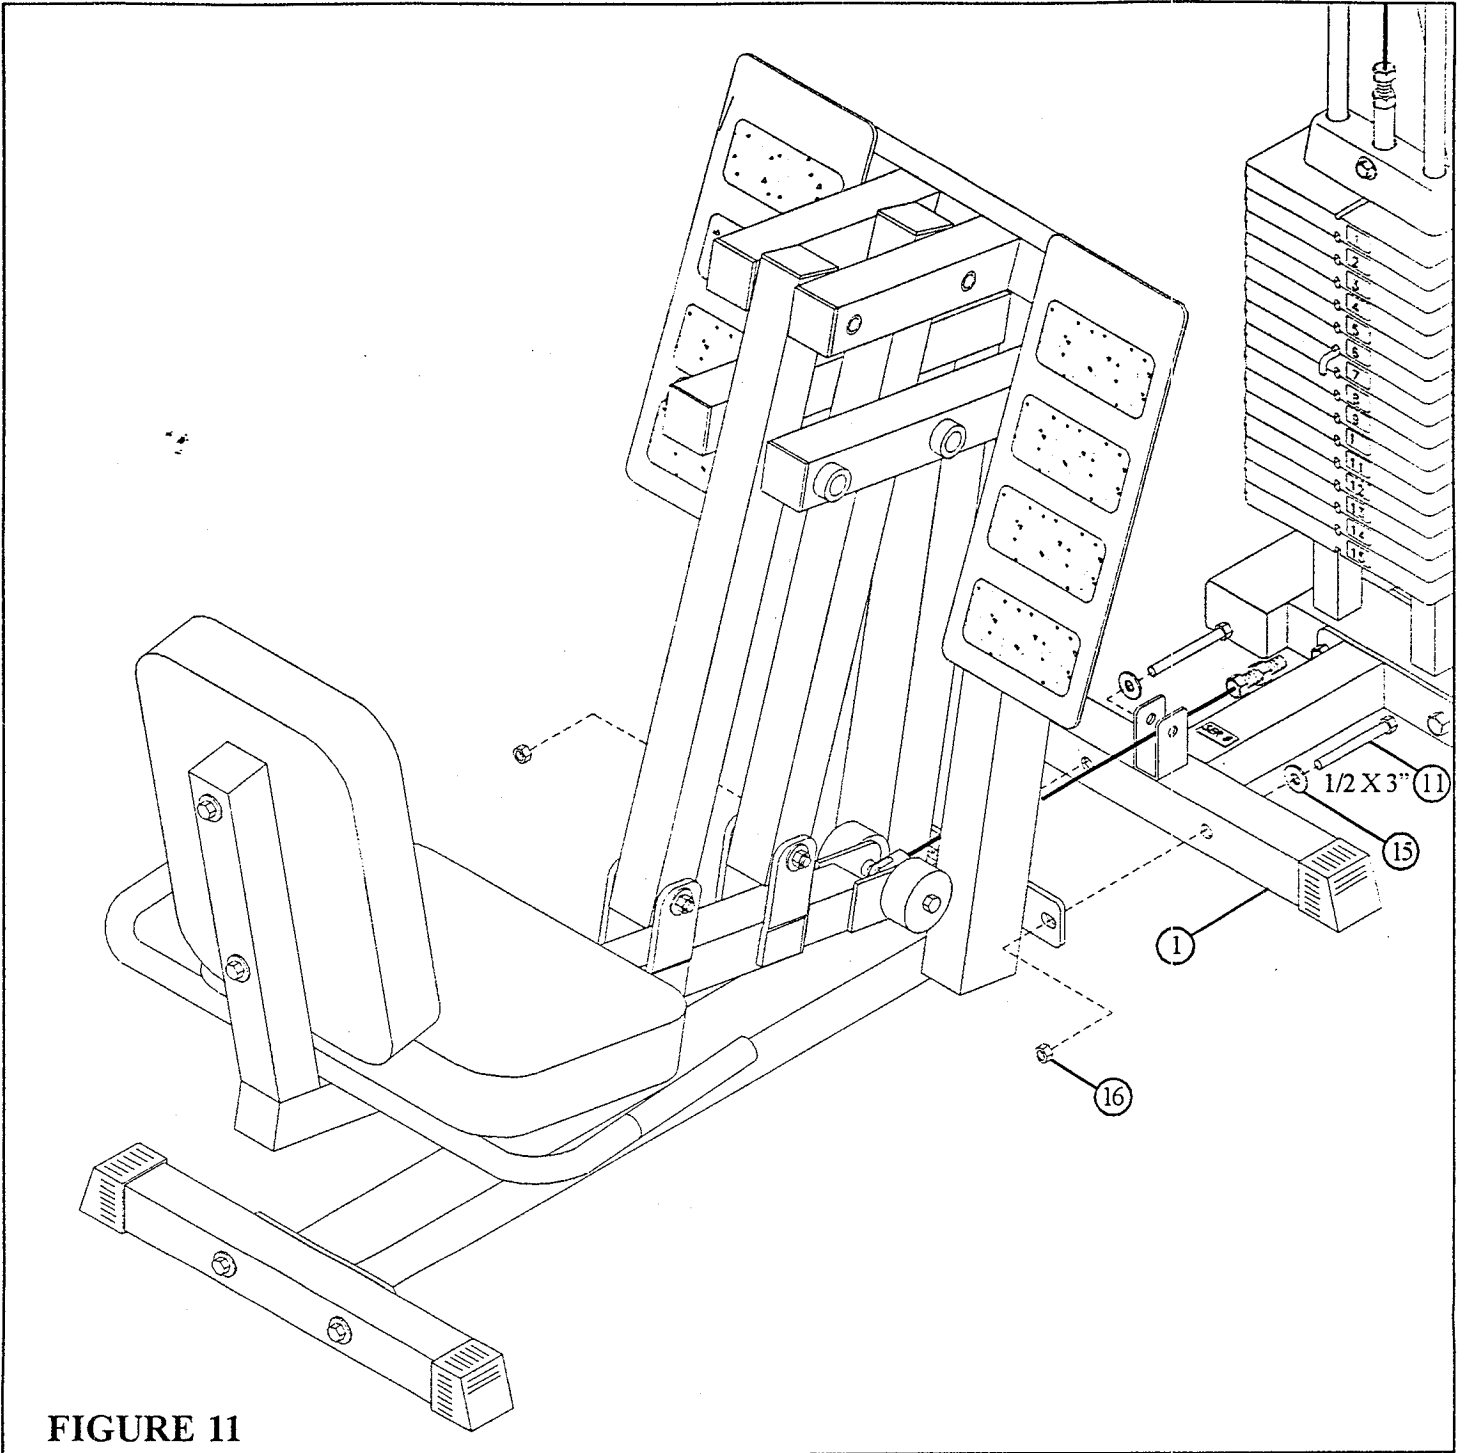

FIGURE 11
- Securely fasten the 832 LEG PRESS to the FRONT LEG (1) using two 1/2 X 3" BOLTS (11), two 1/2" WASHERS (15), and two 1/2" LOCK NUTS (16) as shown in FIGURE 11.